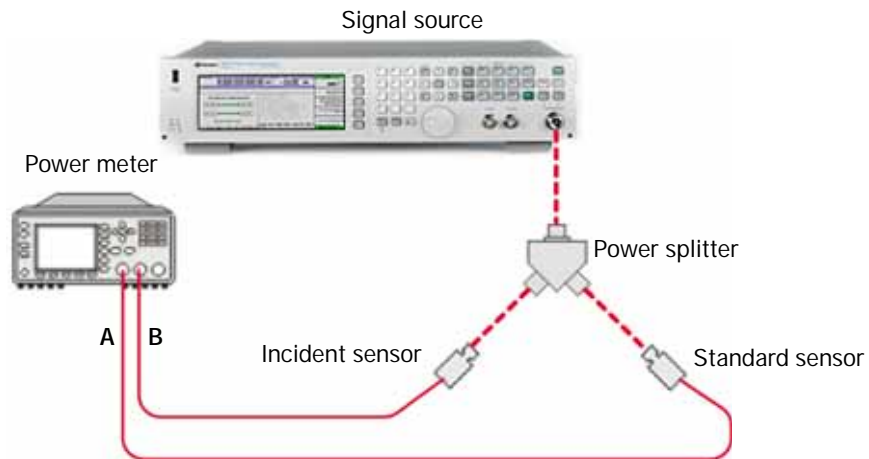

Figure 2-1 Sensor accuracy performance test setup for the N1921/2A (50 MHz to 18 GHz)
- 3 The test equipment setup is as shown in Figure 2-1.